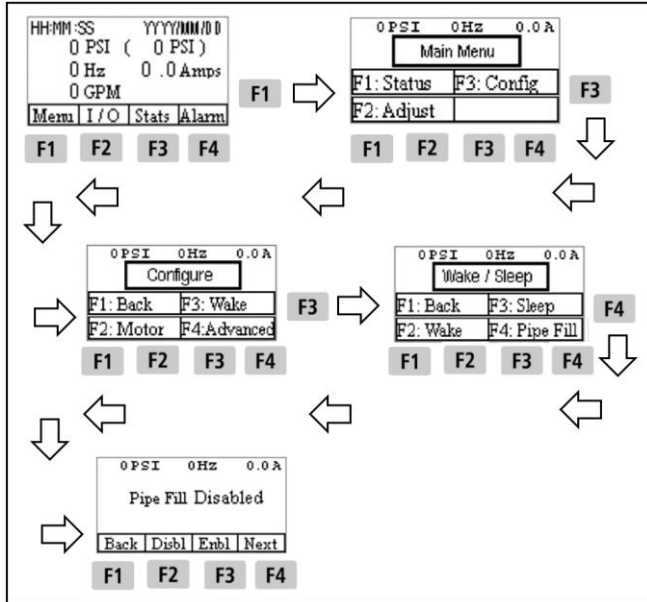

Figure 12-11. Adjusting Parameters For Pipe Fill Mode.
2. From the System Status screen, press the **F1** Menu key to get to the Rain Bird Main Menu screen (see Figure 12-11).
3. From the Rain Bird Main Menu screen, press the **F3** Config key to get to the Configure menu (see Figure 12-11).
4. Press the **F3** PSI key to get to the Wake / Sleep screen (see Figure 12-11).
5. Press the **F4** Pipe Fill key to get to the Pipe Fill Enabled / Disabled screen (see Figure 12-11).